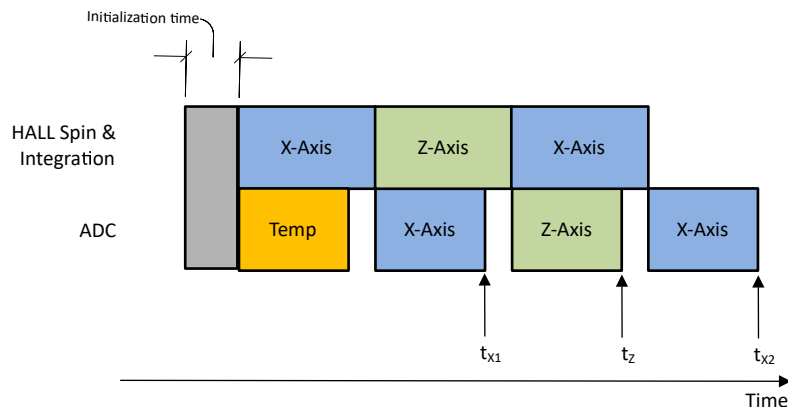

Figure 8-3. XZX Magnetic Field Conversion
In absolute angle measurement, application sensor data from multiple axes are required to calculate an accurate angle. The magnetic field data collected at different times through the same signal chain introduces error in angle calculation. The TMAG5170-Q1 offers pseudo-simultaneous sampling data collection modes to eliminate this error. Figure 8-3 shows an example where MAG_CH_EN is set at 1101b to collect XZX data. Equation 14 shows that the time stamps for the X and Z sensor data are the same.
- t_{x1} , t_z , t_{x2} are time stamps for X, Z, X sensor data completion as defined in Figure 8-3.